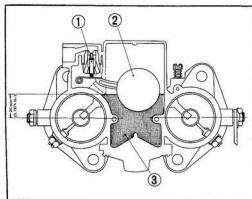

Fig. EF-20
This system is the device for maintaining the fuel level at the regular height when Engine is running and is composed of the functional parts, Float ② and Needle Valve ①. The construction is shown in Fig. EF-20. The fuel flows from Fuel tank by way of Fuel Pump and flows into Float Chamber ③ through Needle Valve ①. If a certain amount of the fuel is filled in Float Chamber ③, Float ② will be floated and the float valve will contact closely with the valve seat by the buoyancy of Float, cutting off the fuel flow and as the result the fuel level is always maintained to the regular height.